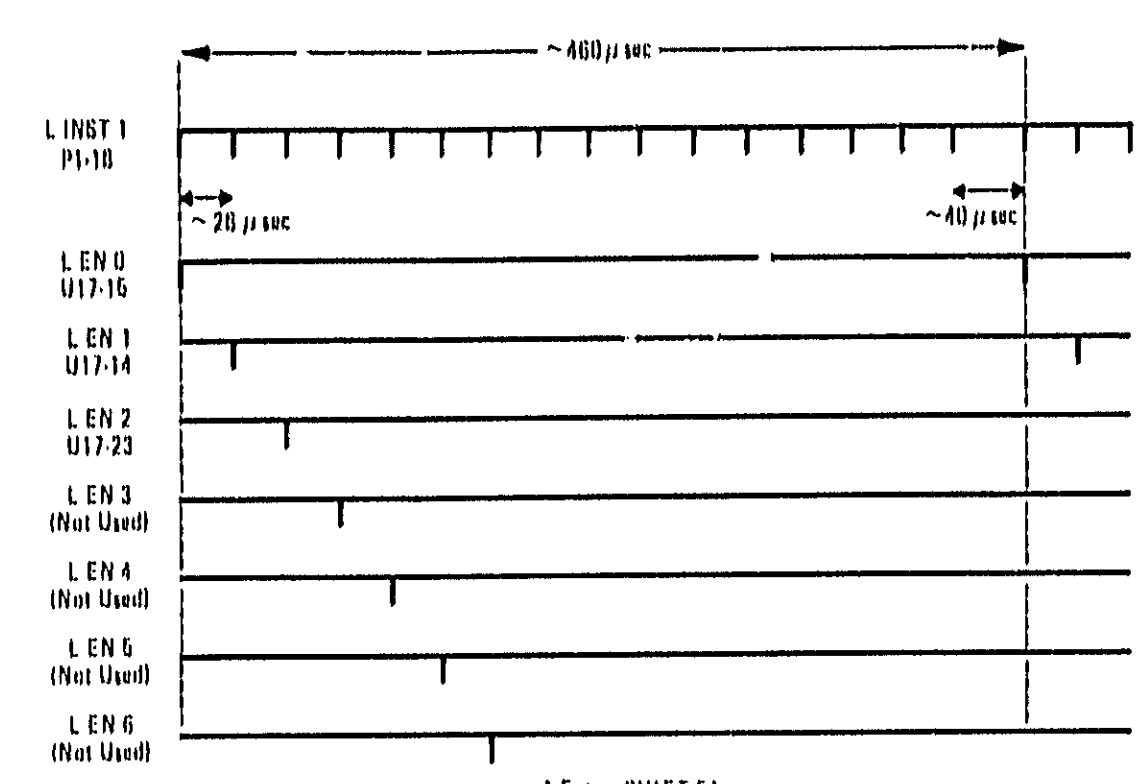

Figure 8-45 A6 Address Decoder Timing Diagram
2. If I.F. INST1 is functional, check each of the I. ENn lines (U17) for the pulses shown in Figure 8-45. If these are incorrect, but the address lines show activity, replace U17. If the address lines seem locked high or low, troubleshoot the address buffer on the A3 assembly.